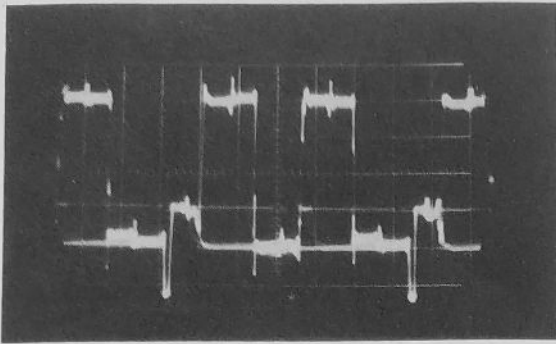

Figure 32. Input, Video Input 2J13. Output, Red Output. Set Brightness Control at 1/3 Rotation.
40. Connect the scope probe to the red output. This pattern should be the same as shown in Figure 32.